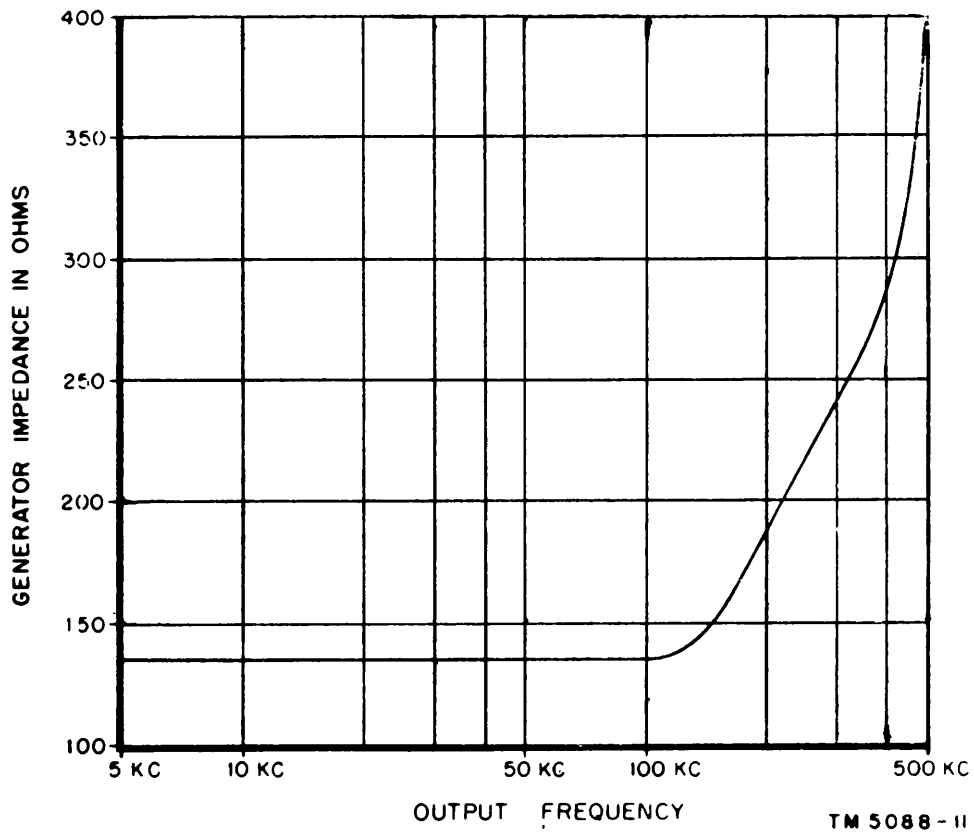

Figure 3-8. Signal Generator SG-71 (\*) / FCC, internal impedance vs operating frequency.
e. If the load is 600 ohms or more, load-matching resistors must be added between the signal generator terminals and the load (fig. 3-7). To determine the necessary value for these resistors, the internal impedance of the signal generator at the frequency to be used should be obtained from figure 3-8. Internal impedance varies from instrument to instrument, so figure 3-8 can only be considered to be an approximation. To determine the required value for the load-matching resistance, subtract the internal impedance of the signal generator at the intended frequency from the resistance of the load. Then halve this difference value of resistance if the load is balanced, and connect each half on the opposite sides of the load (fig. 3-7). *For example*, assume that a balanced load of 1,000 ohms is to be used at a frequency of 100 kc. Figure 3-8 shows that at 100 kc the internal impedance of the signal generator is 130 ohms; therefore, a total load matching resistance of 870 ohms is required (1,000-130 ohms). This load-matching resistance can be made up of two 430-ohm resistors.